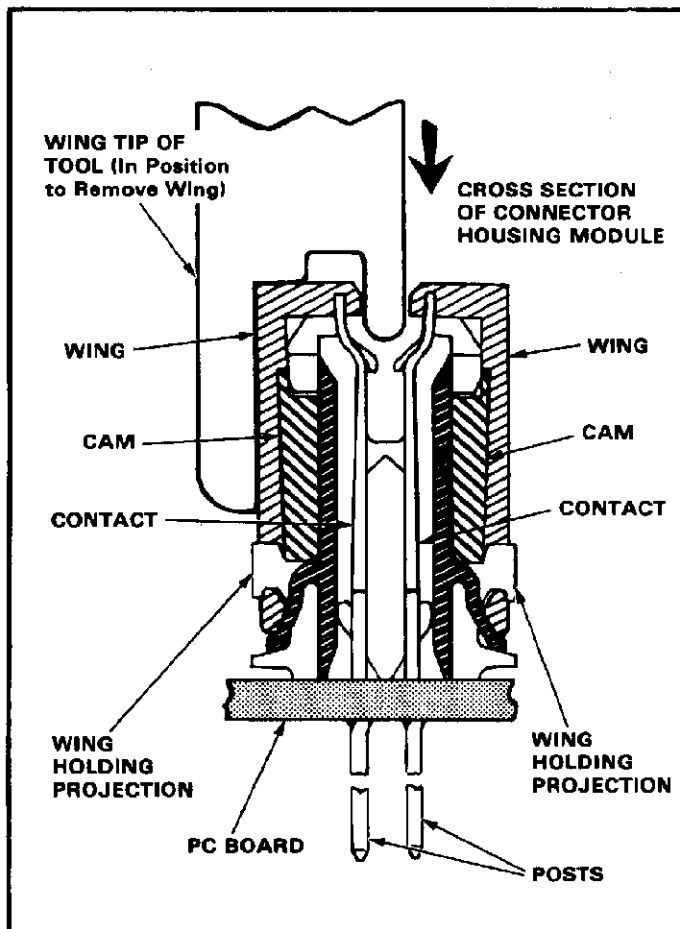

Fig. 2
The wing tip of the tool is shown in Figure 2 in position for removing one of the wings. The ZIF connector module is shown in cross section seated on a pc board or panel.
1. Place wing tip of tool over wing to be removed (see Figures 2 and 3A).